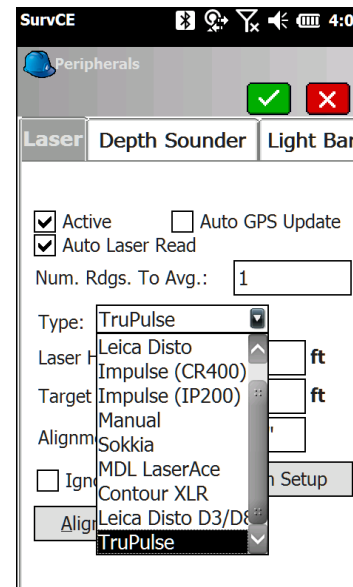

Figure 3
4. Select the Laser tab, check the Active box and choose TruPulse from the pull-down list for Type (Fig.3)